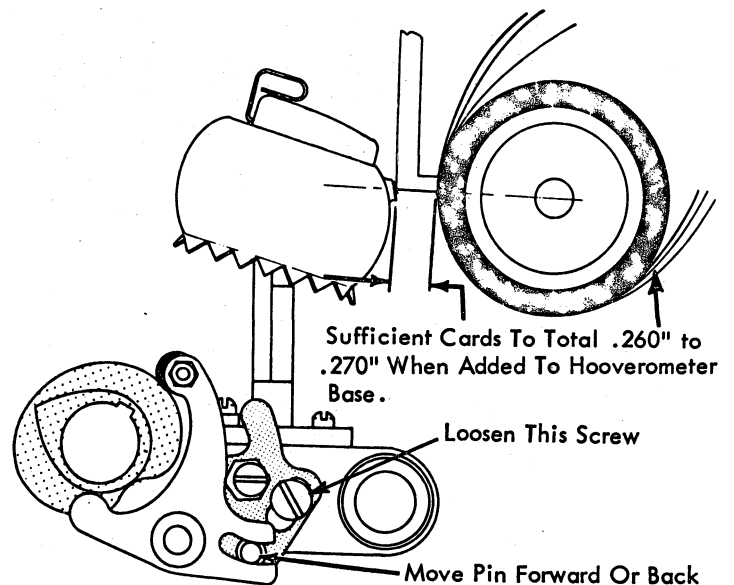

FIGURE 140. Velocity Control Plate Adjustment
- d. Hand-cycle the machine until the print cam follower is at the low point of the cam. This may not be at the rest position. The low point of the cam can be determined by observing the movement of the head toward the front of the machine. With the typehead at its most forward point, adjust the velocity control plate pin forward or back in the cam follower slot until a clearance of .260" to .270" exists between the center of a zero rotate, zero tilt character and the platen (Fig. 140).
The base of the Hooverometer handle can be used as a measuring device as illustrated in Fig. 140. The handle base is about .250" thick; however they do not all measure the same. Each handle should be measured with a dial indicator or micrometer to determine its exact size. When the size of the handle base is determined, a thickness of tab cards should be placed around the platen that will total .260" to .270" when added to the thickness of the handle base.